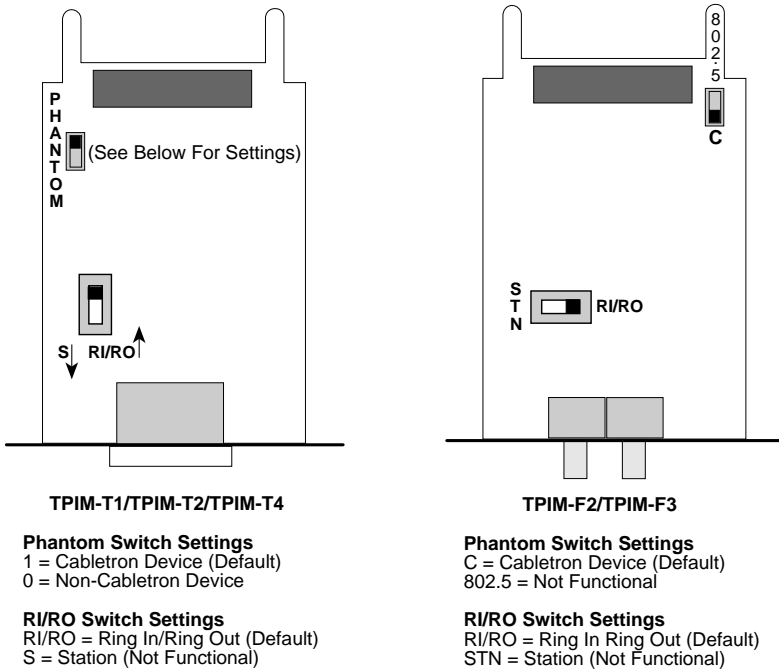

Figure 3-11. The Phantom and RI/RO Switches
Before you install a TPIM, set the Phantom Switch to the appropriate setting. This switch enables the port to “autowrap” if a trunk cable fails or is removed. Figure 3-11 shows the location of the Phantom Switch. If you attach a Cabletron hub to the TPIM, leave the switch at the factory default setting of 1. If you attach a Non-Cabletron device to the TPIM, use the 0 setting.
**Note:** If the switch locations on your TPIM do not match the locations illustrated in Figure 3-11, refer to the TPIM Reference Card included with the TPIM. The TPIM Reference Card outlines the current switch locations and settings. If you have any questions, call Cabletron Systems Technical Support.